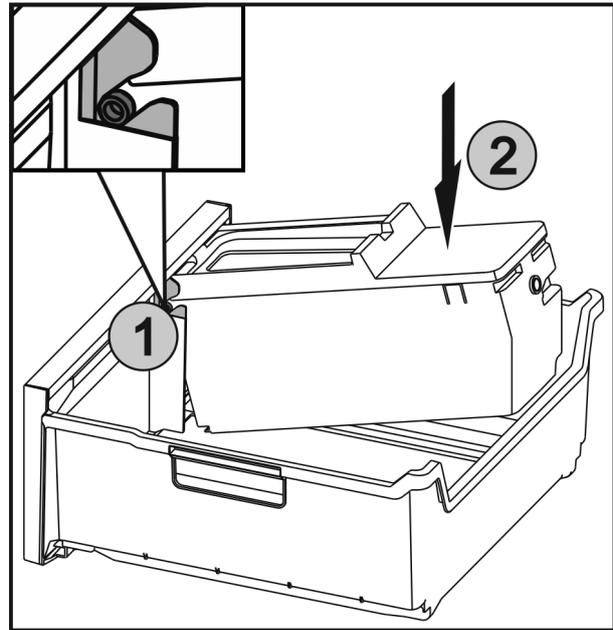

Fig. 43
- ▶ Push the axles Fig. 43 (1) on the EasyTwist-Ice into the guides and push the rear side Fig. 43 (2) until the lugs engage.